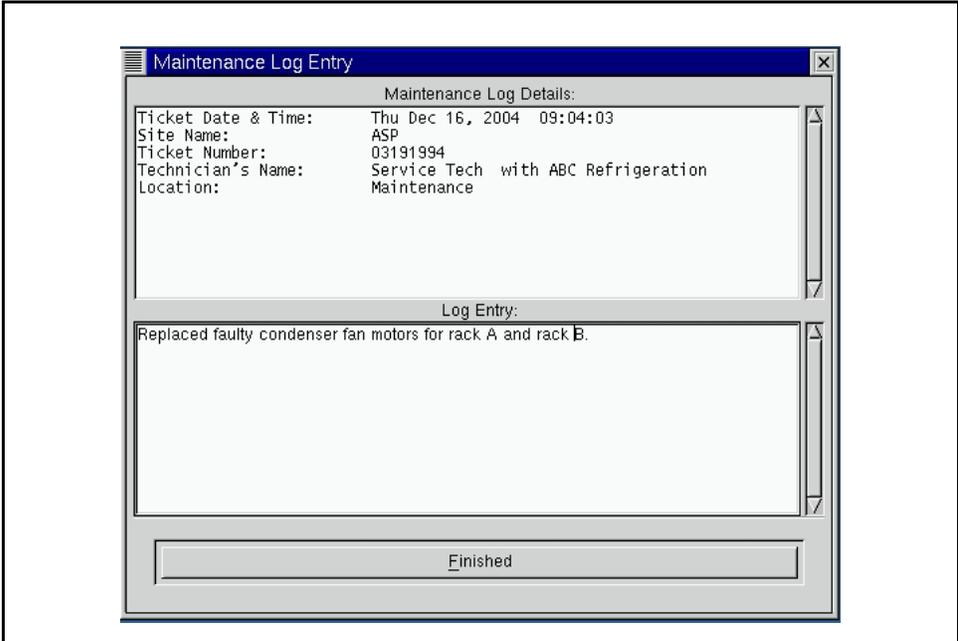

Figure 4-11 Maintenance Entry
6. Click "Start." The "Maintenance Log Entry" screen will appear (**Figure 4-11**). This screen repeats the data you just entered and allows you to enter a detailed description of what